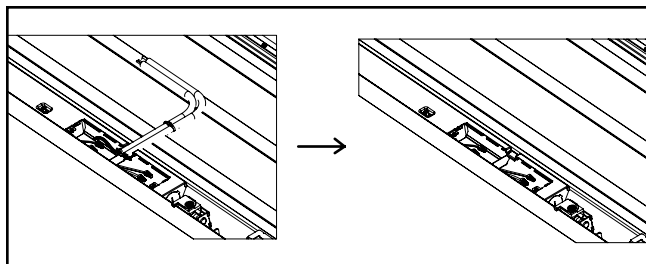

Figure 9.
5. Disconnect the flexible cord by removing the wire nuts. Discard the flexible cord. See Fig.9.
5. Disconnect the flexible cord by removing the wire nuts. Discard the flexible cord. See Fig.9